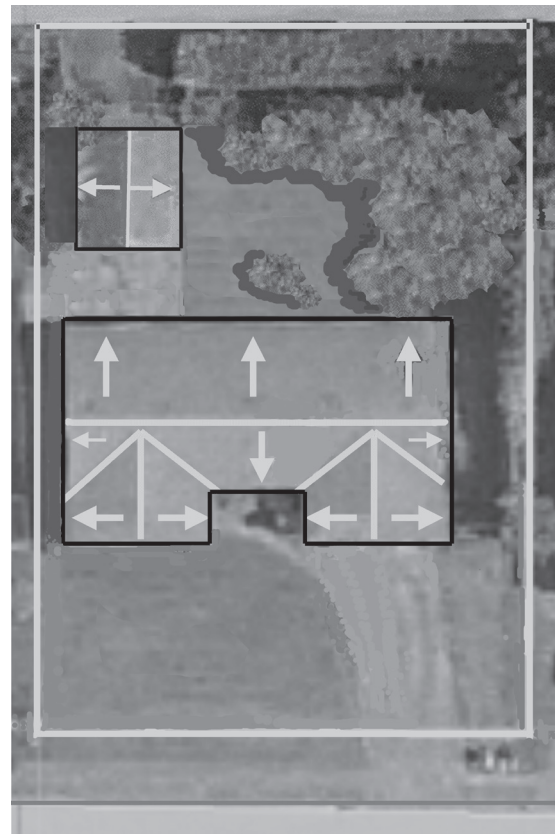

Figure 7. Example aerial photo of residential site in Bellingham obtained from CityIQ Online Map Viewer
Creating a map of your site will help you visually think through your needs, resources, and water harvesting strategies. Start by obtaining an aerial photo of your site, then use the aerial photo to prepare a map of your site (Figures 7 and 8). Make multiple copies of the map and add items to the map as you develop your water harvesting plan.
- Search the City of Bellingham's CityIQ Online Map Viewer located at <http://www.cob.org/cityiq> to obtain an aerial photo of your site along with other useful site information including property boundaries, location of utility services, and more (Figure 7).